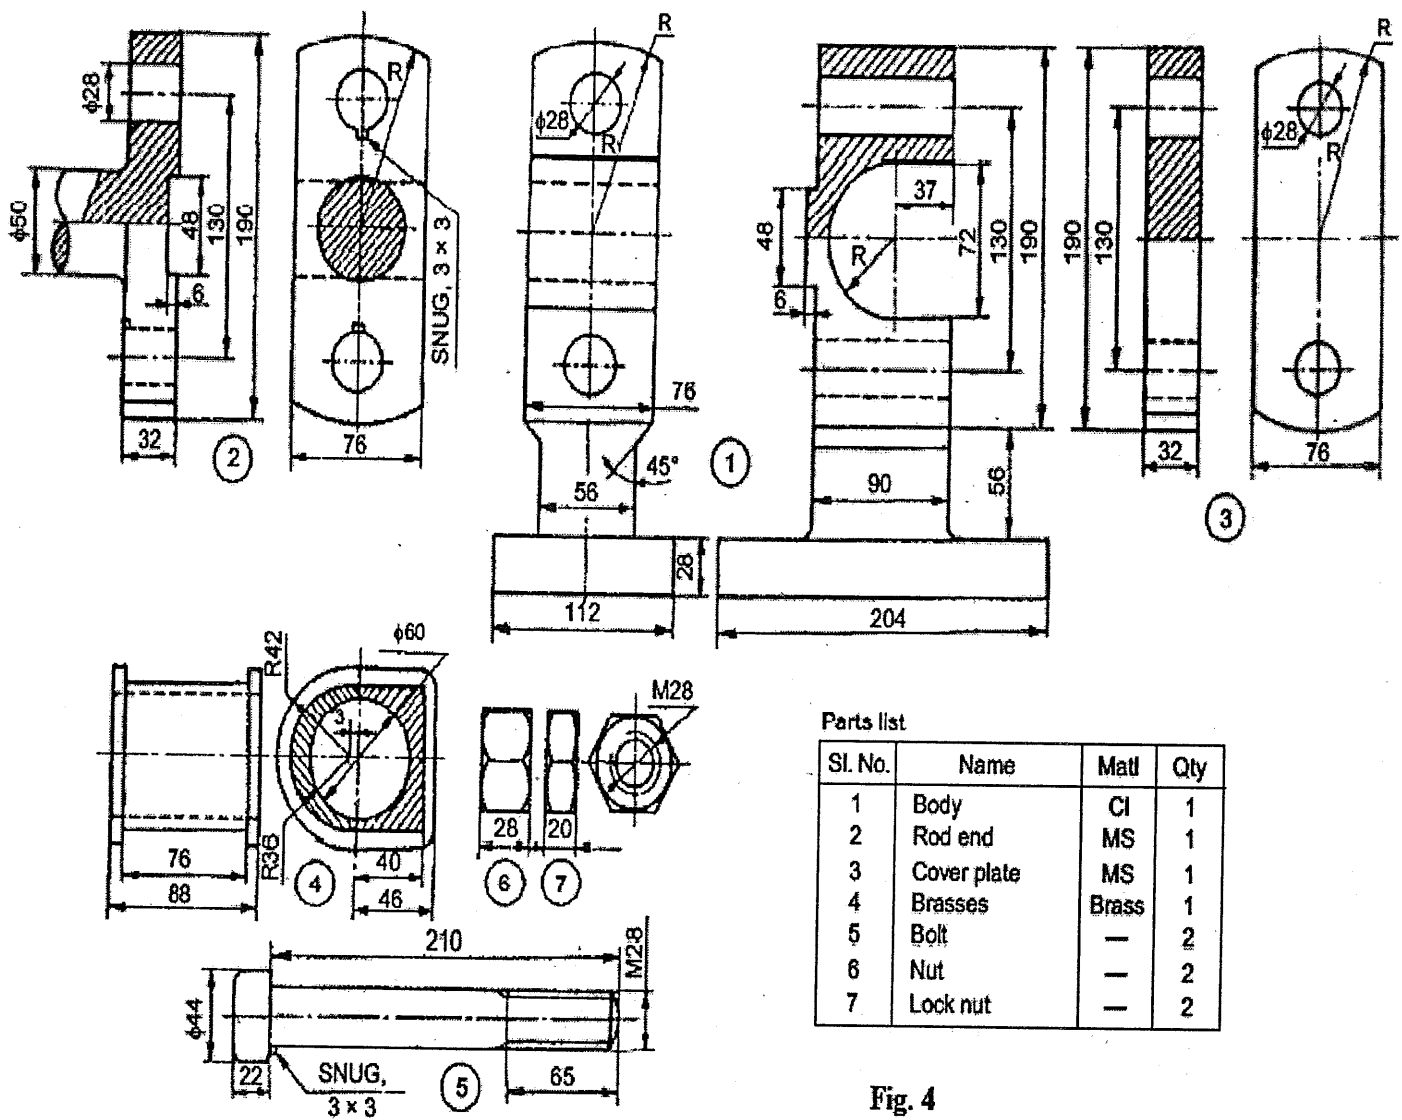

Fig. 4
- VI. Figure 4 shows the details of steam engine crosshead. Assemble the parts and draw (i) half sectional view from the front. (25)